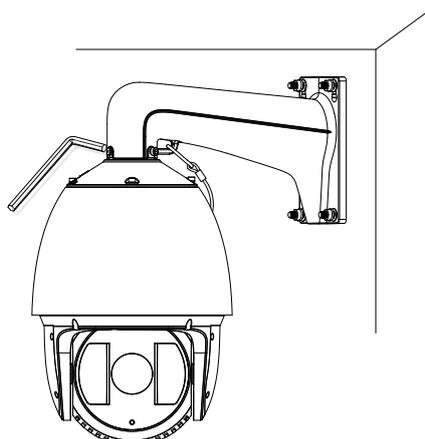

Figure 3-23 Secure the Speed Dome
- 6) Secure the two lock screws with the Allen wrench as shown in Figure 3-23.